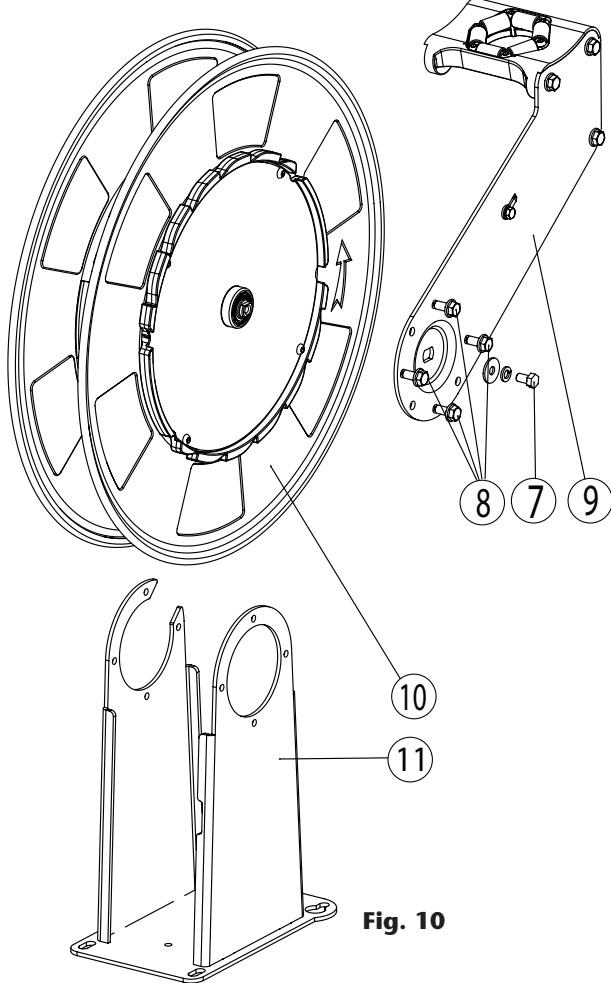

Fig. 10
6. Remove the upper arm (9) (fig.10) loosening the bolt (7) (fig.10). The spool will be disconnected from the frame. Next, loosen the bolts (8) (fig.10) and remove the upper arm.